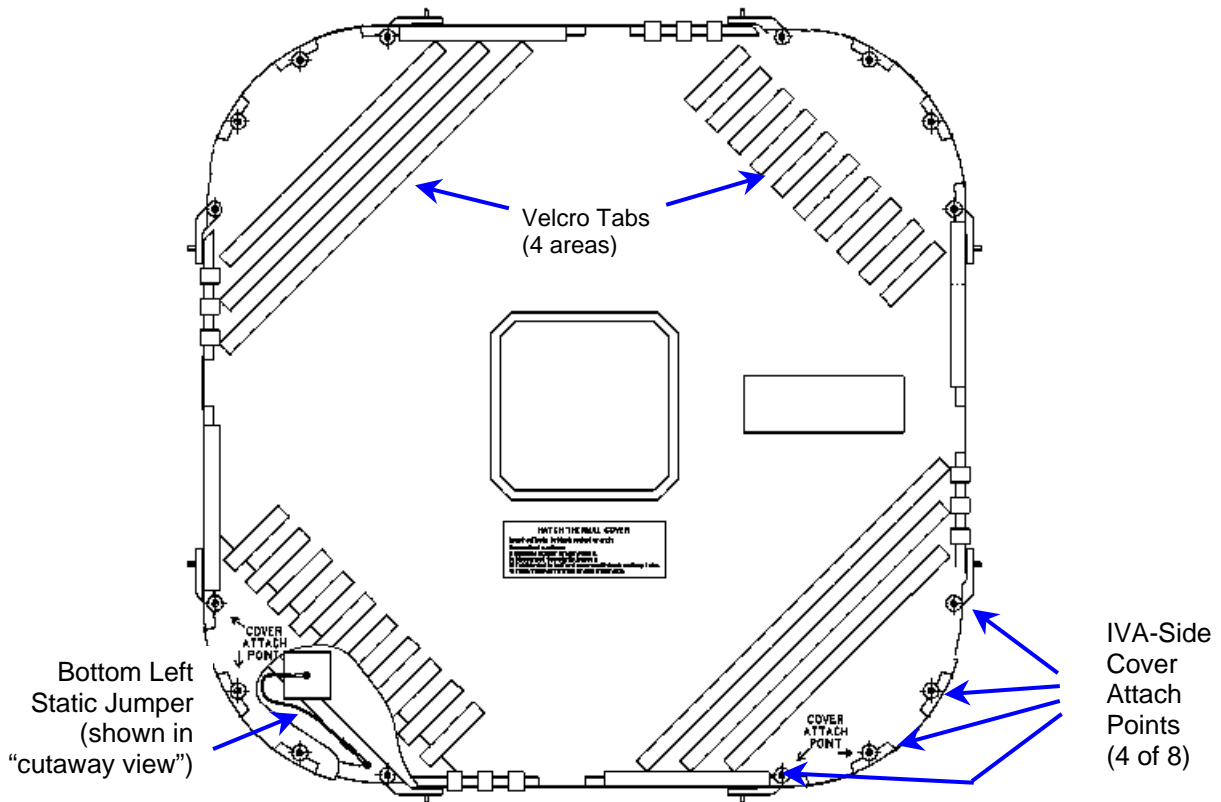

Figure 1.- IVA Side of Hatch Thermal Cover.
2. Hatch Thermal Cover is attached to four Corner Struts. Corner Struts are attached to Lab Fwd Hatchway. Cover Attach fasteners (four each corner) are accessed from IVA-side of Hatch. Corner Strut fasteners (two each strut) are accessed from EVA-side of Hatch. Refer to Figures 1, 2.
Refer to Figure 1, Cover decals labeled "Cover Attach Point."